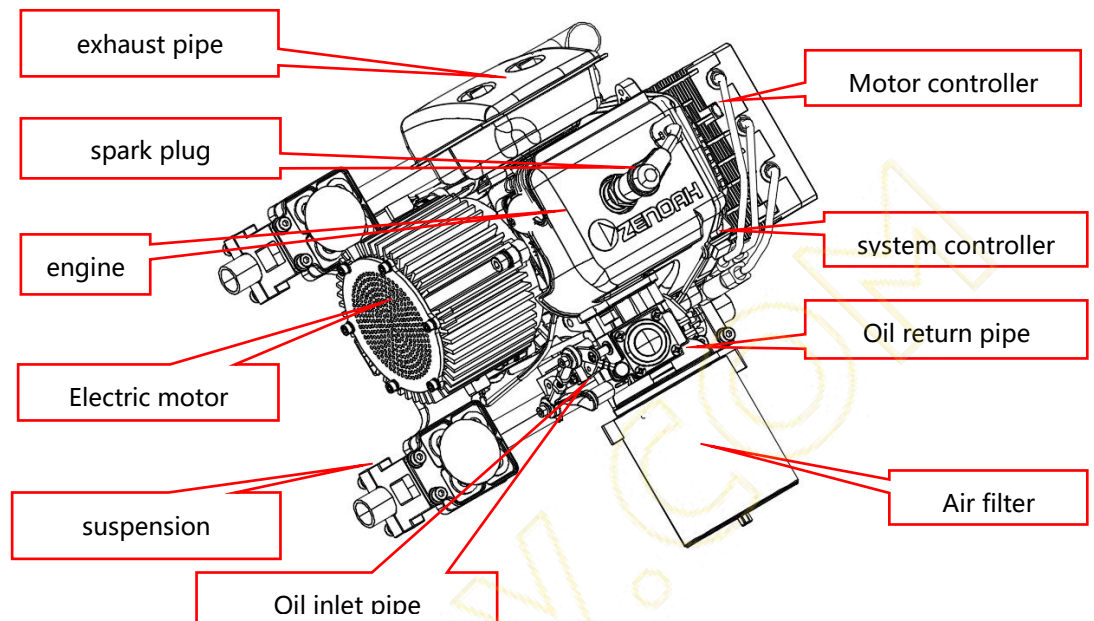

Fig 3
5.1 The outline of Halo-2000 Generator hybrid system is shown in Figure 3 below: